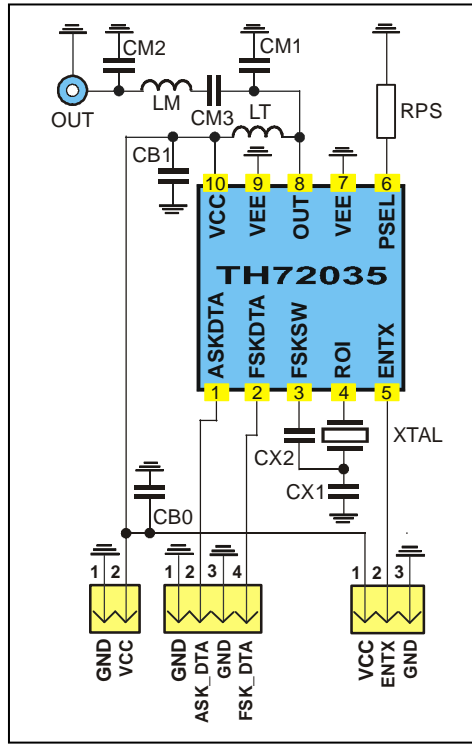

Fig. 18: Test circuit for FSK and ASK with 50 Ω matching network
typical values at $T_A = 23\text{ °C}$ and $V_{CC} = 3\text{ V}$; test circuit shown in Fig. 18, $f_c = 868.3\text{ MHz}$
- Data according to test circuit in Fig. 18 (868.3MHz)
6.1 Test circuit component list to Fig. 18